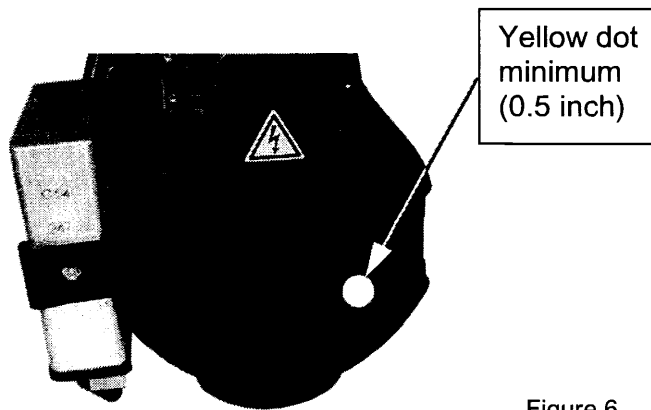

Figure 6.
1. **Before starting work**, check to see if the heater is already marked. This means the burner tube has been replaced already. Corrected heaters are marked with a yellow dot on the control unit or on the front side of the burner head cover (black plastic) or in both places (see figures 6 & 7).
10. Place a water insoluble (permanent ink or paint) yellow dot, minimum $\text{Ø}10\text{mm}$ (0.5 in.), on the control unit and on the front side of the burner head (see figures 6 & 7) to identify corrected heaters.